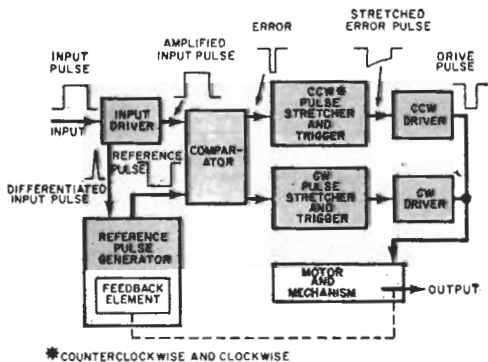

Fig. 4. Most of the functions in digital servo are included in a single IC device.
**The Servo.** Figure 4 is a block diagram of a digital feedback servo. Almost all servo amplifiers now consist of a specially designed IC that contains all the control functions shown in the diagram. The only external components needed are used for dead-band, travel, and feedback sensitivity trimming. The servo functions as follows.